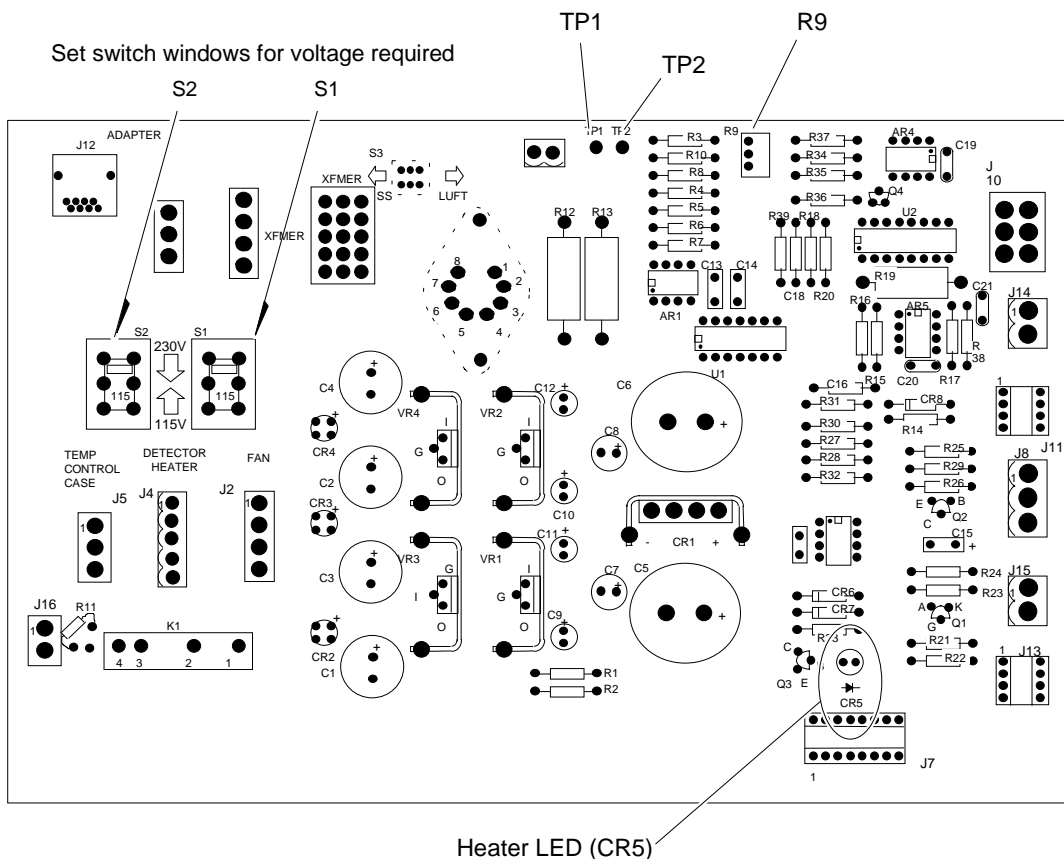
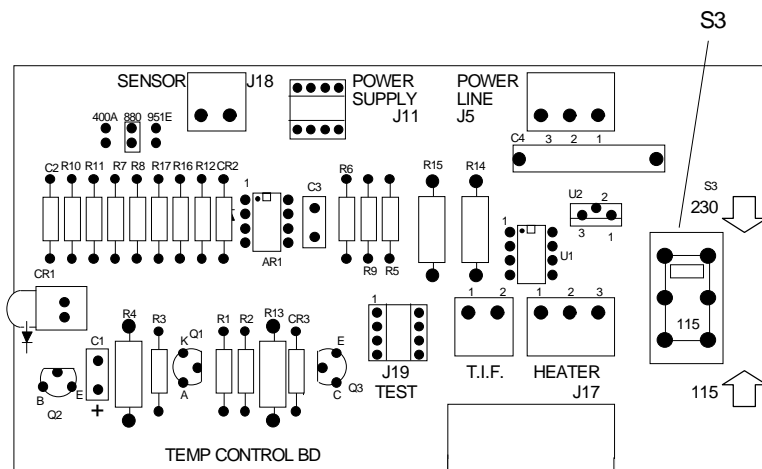

FIGURE 2-2. POWER SUPPLY BOARD
FIGURE 2-3. CASE HEATER TEMPERATURE CONTROL BOARD
Analyzers are shipped from the factory set for 120 VAC, 50/60 Hz operation. To convert to 220 VAC, 50/60 Hz power, position voltage select switches S1, S2 (located on Power Supply Board, Figure 2-2), and S3 (located on the optional Case Heater Temperature Control Board, Figure 2-3), to the 230 VAC position.
3. Apply power. Verify that heater LED (CR5 on the Power Supply Board) is ON. Refer to Figure 2-2 and Drawing 624073.